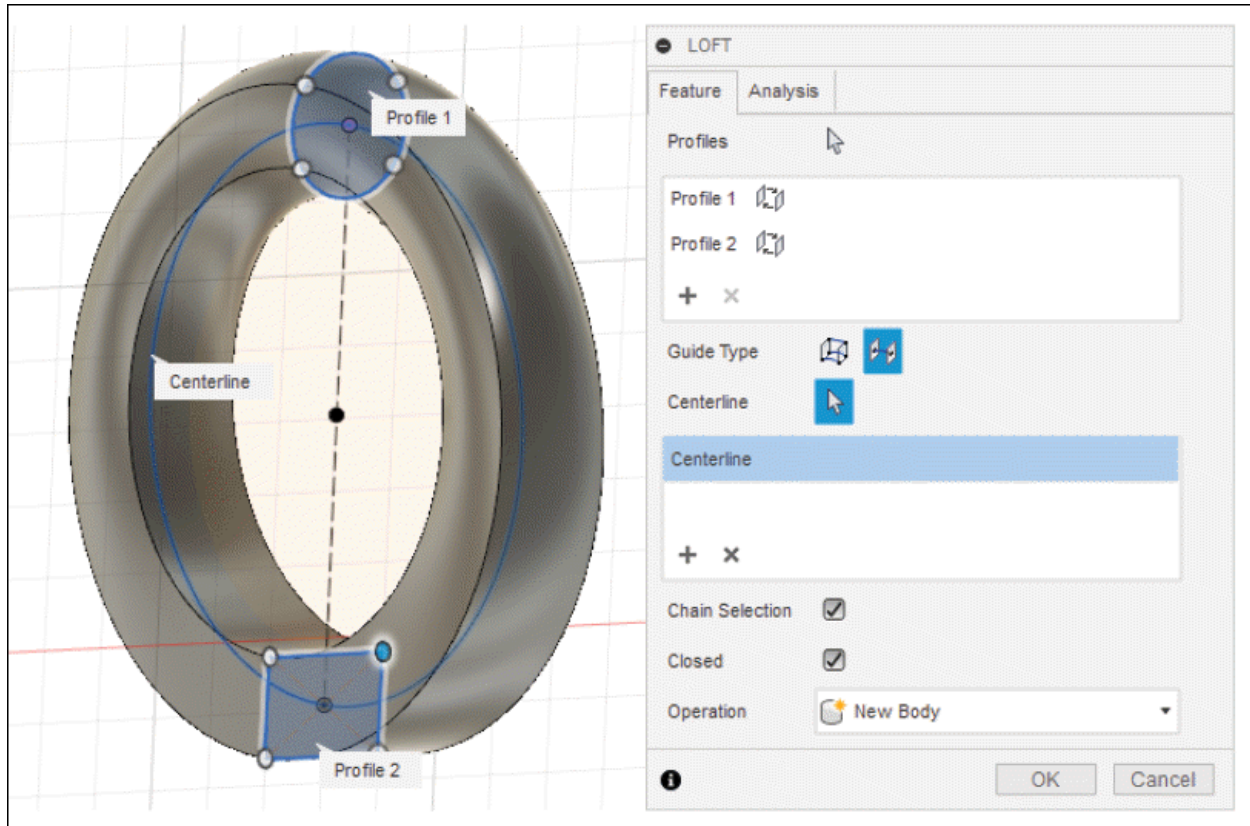

Figure-17. Preview of loft on selecting closed centerline
- By default, **Closed** check box is clear so you will be getting half of the ring. Select the **Closed** check box to complete the loft. Preview of the loft feature will be modified; refer to Figure-17.